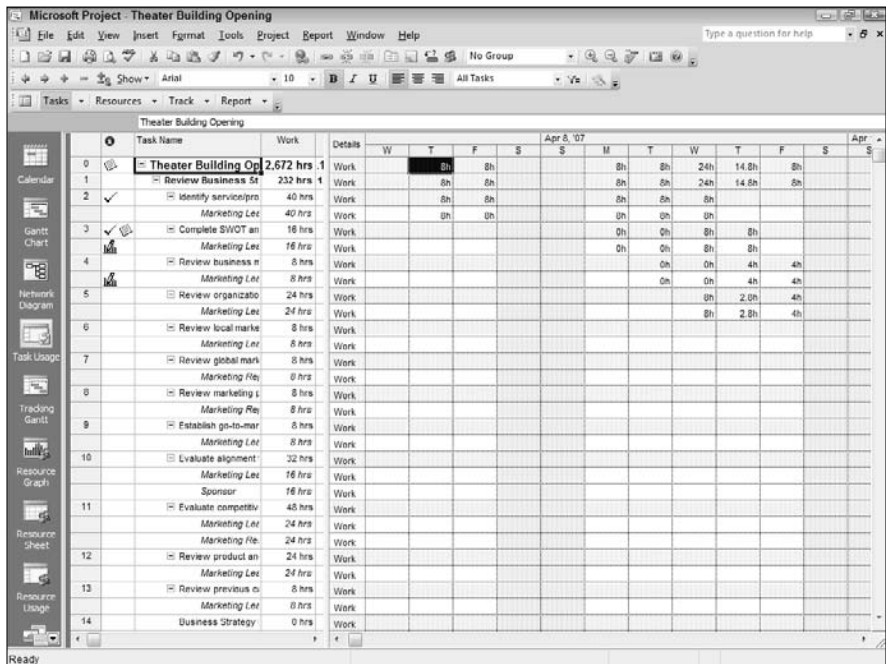

Figure 3-6:
- ◆ **Task Usage**, shown in Figure 3-6, is a useful view for spotting the amount of work going on in your project task by task over a period of time such as a week or month. This overview of work hours can help you spot potential work bottlenecks, slow times when it might be a good idea to make better use of resource downtime, and times when resources might be overworked.